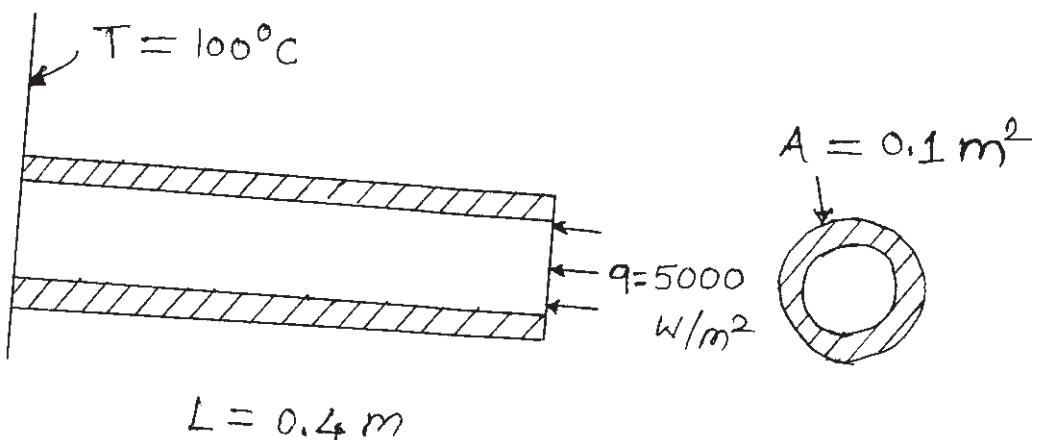

Figure 6.1
- Q6)** The fin shown in figure 6.1 is insulated on the perimeter. The left end has a constant temperature of 100°C . A positive heat flux of $q=5000 \text{ W/m}^2$ acts on the right end. Let $K_{xx}=6 \text{ W/(m}^\circ\text{C)}$ and cross sectional area $A=0.1 \text{ m}^2$. Determine the temperatures at $L/4$, $L/2$, $3L/4$, and L where $L=0.4 \text{ m}$. [16]